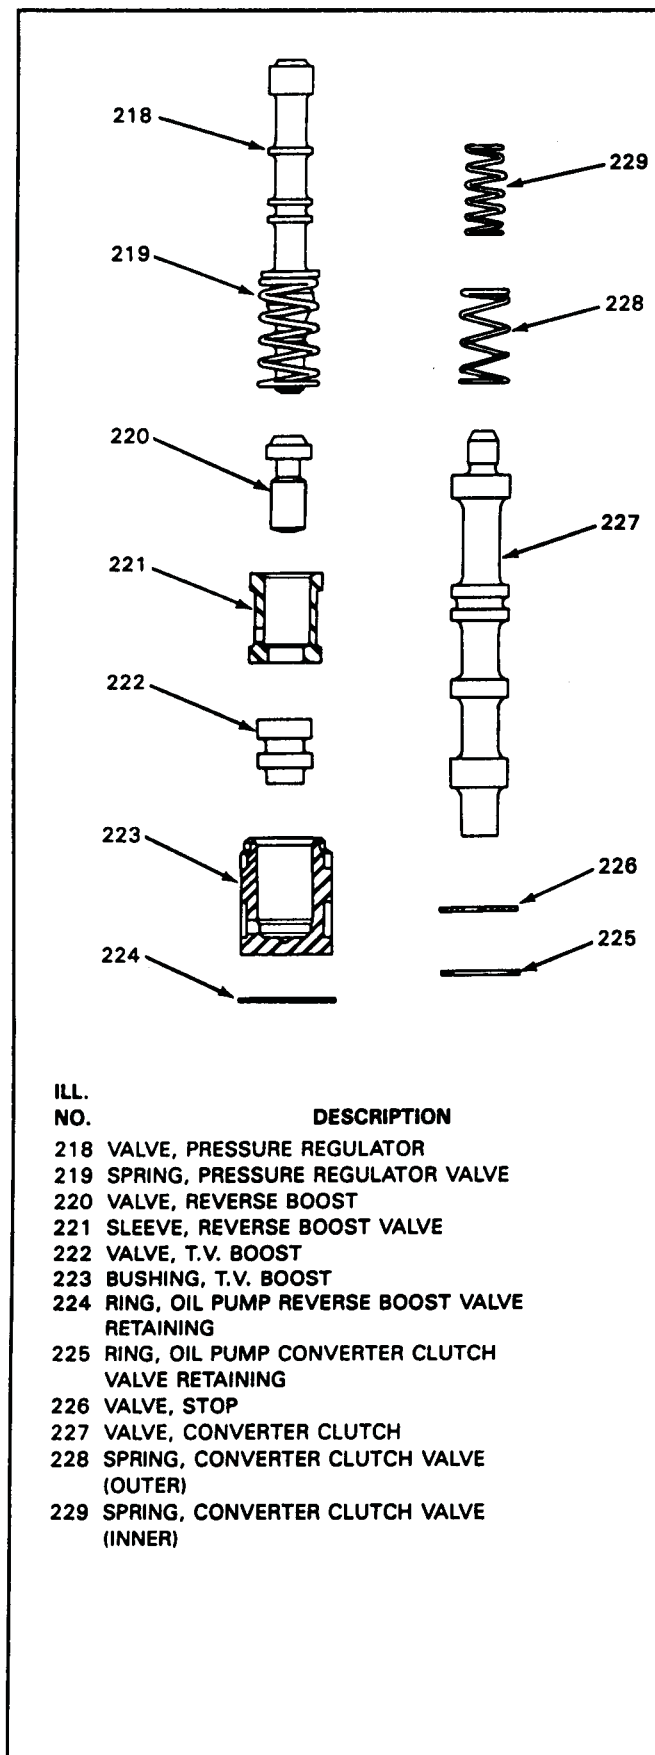

Figure 175
21. Install the converter clutch apply valve into the same bore, with the valve installed exactly as shown in Figure 175.
27. Install the reverse boost valve into the reverse boost valve bushing, as shown in Figure 175.
28. Install the reverse boost assembly in the P.R.V. bore on top of spring, as shown in Figure 175.
29. Install the T.V. boost valve into the T.V. boost valve bushing "Exactly" as shown in Figure 175.
30. Install T.V. boost assembly into the P.R.V. bore on top of reverse boost assembly as shown in Figure 175.